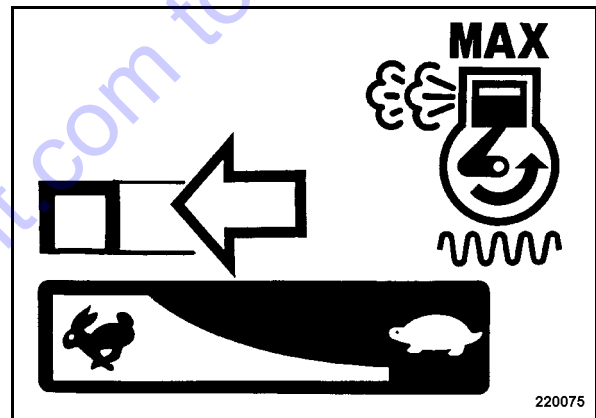

Fig. 27
- Shift the throttle lever (Fig. 27) in direction of arrow to full load position.